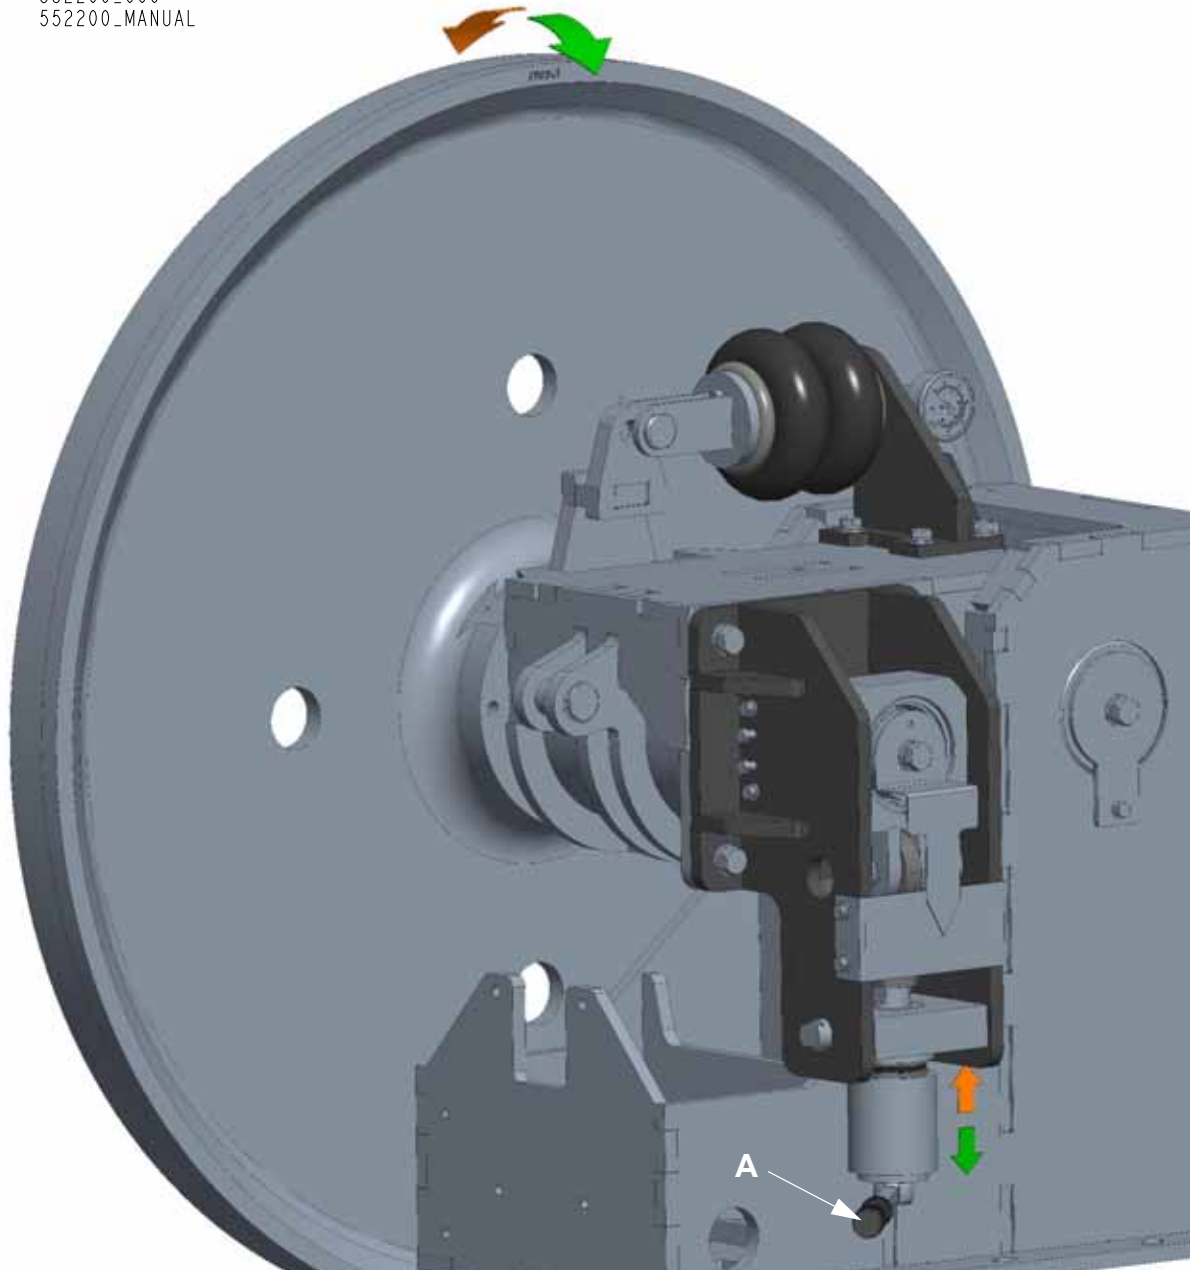

FIG. 5-18
See Figure 5-18 To align the idle wheel vertically, use the handle (A) as shown in the pictures below.